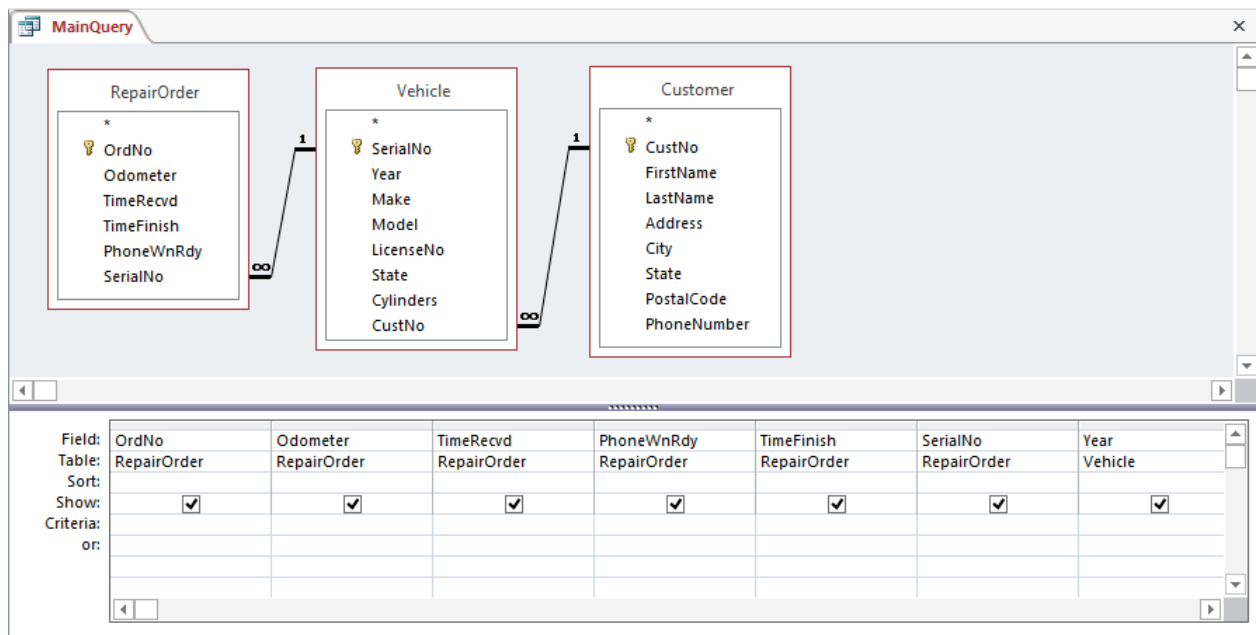

Figure 14: Query Design Window for *MainQuery*
- Formulate the Query: In Query Design, formulate a query as shown in Figure 14. Follow these tips to develop the query.
7. Add Textboxes: Add textboxes and change label names according to Table 3. Drag a field name from the field list and drop it onto the form. If the field list is not on the screen, click **Design** → **Add Existing Fields** in the Tools group. You can use the **Arrange** → **Stacked** command in the Table group to make a neatly formatted layout for each group of controls. Alternatively, you can use the tools in the Size & Ordering and Position groups to modify the display. If necessary, move the subform down further to accommodate the new textboxes. You should try to achieve a layout similar to Figure 14.
9. Label the Columns: Select the **Label** tool from the toolbox and place a new label above each column (Figure 14). Type “Vehicle Information” and “Customer Information” as the label captions. Change label sizes **To Fit** to make it easier to drag and center the label above the column. While a label is still selected, click the capital **U** on the toolbar to underline the label’s text.